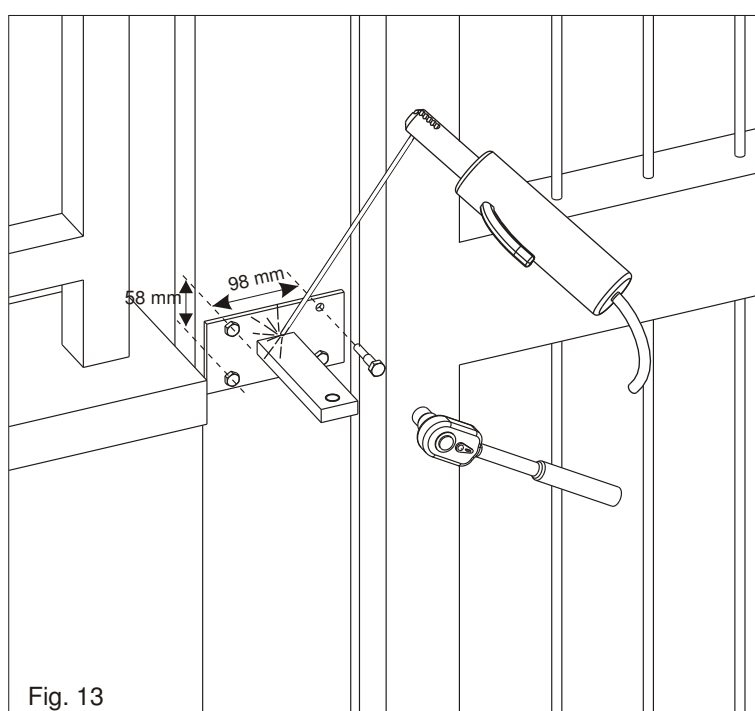
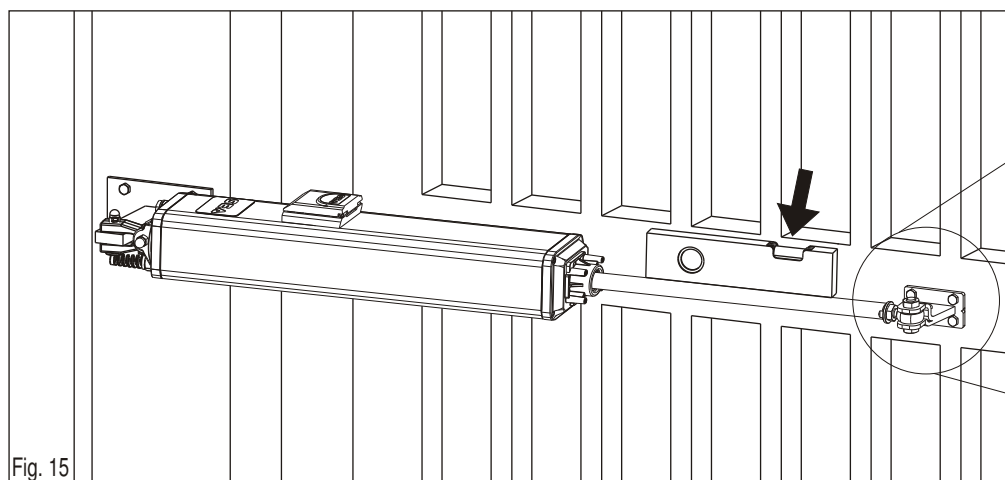

Fig. 13
Fig. 15
According to the type of opening that you have chosen (inside or outside) and to the chosen leaf rotation (see pag. 20-21), the rear bracket must first be cut respecting the quote "a" on pag. 20-21 and then welded as in fig. 13.
The support must be positioned so that the operator is perfectly levelled (Fig. 13, Fig. 15)
4. Set the operator perfectly levelled and mark the position of the front bracket (Fig.15)